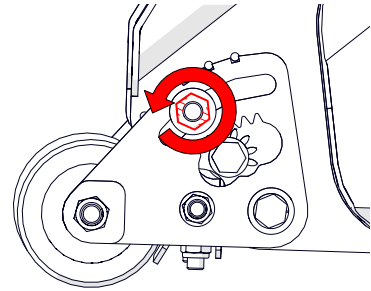

Fig.8E - Loosen the top clamp nut of the roller quadrant
6. Loosen the top clamp nut of the roller quadrant [19 mm spanner] (Fig.8E). Repeat on the opposite side quadrant.